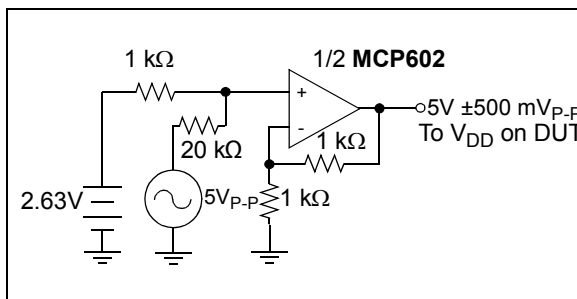

FIGURE 1-4: Power Supply Sensitivity Test Circuit (PSRR).
Note 4: $V_{DD} = 5V DC \pm 500 mV_{P-P} @ 1 kHz$, see test circuit Figure 1-4.
4: $V_{DD} = 5V$ DC $\pm 500 \text{ mV}_{P-P}$ @ 1 kHz, see test circuit Figure 1-4.
- 4: $V_{DD} = 5V$ DC ± 500 mV_{P-P} @ 1 kHz, see test circuit Figure 1-4.